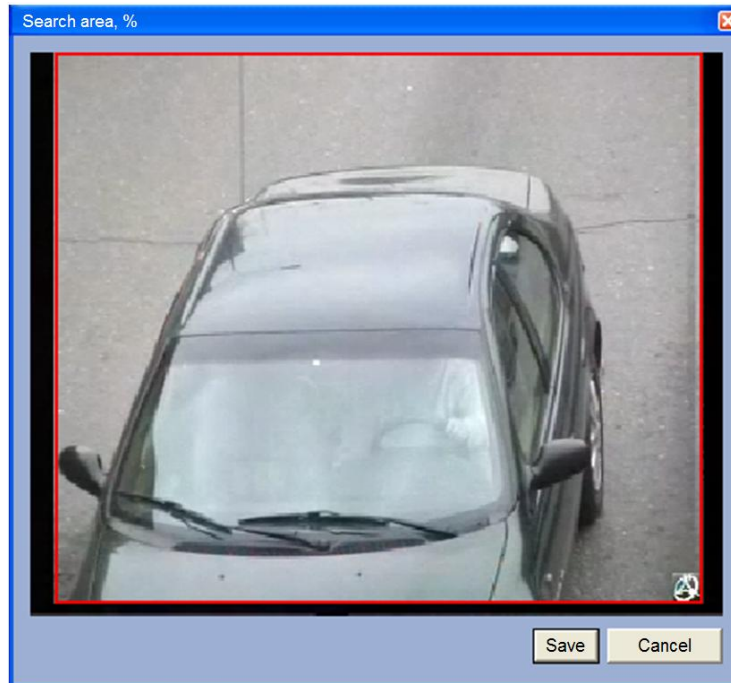

Fig. 7.2-23 Search area borders setup
4. Click the  button to open the Search area borders window. The window Search area borders displays the video image from the camera set in the LPR channel settings. To define the search area, do the following (Fig. 7.2-23):